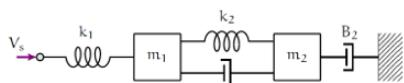

Fig. 1. Schematic model of a Mass-Spring-Damper System.
Figure axis labels are often a source of confusion. Use words rather than symbols. As an example, write the quantity “Magnetization,” or “Magnetization M ,” not just “ M . Put units in parentheses. Do not label axes only with units. As in Fig. 1, for example, write “Magnetization (A/m)” or “Magnetization ($A \cdot m^{-1}$).” not just “ A/m .” Do not label axes with a ratio of quantities and units. For example, write “Temperature (K),” not “Temperature/ K .”